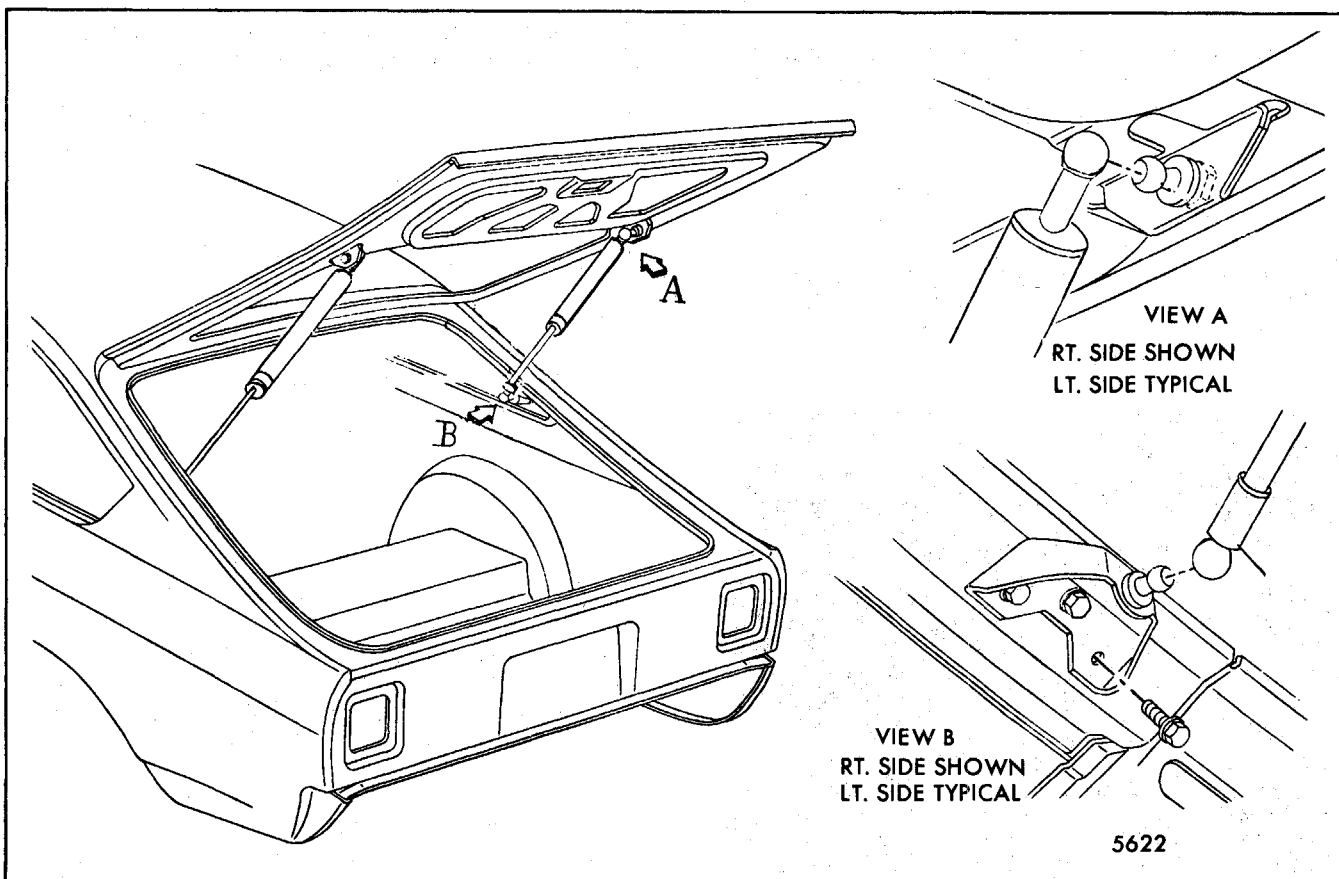

Fig. 7-9-Hatchback Lid Support Assembly Attachment - "H-77" Shown, "H-07" and "X-17" Similar
Opening assist is performed by tubular gas-operated compartment lid support assemblies mounted at each side of the lid and attached to the body. The lid up-stop is incorporated within the support assembly (Fig. 7-9).
2. Remove lid and body side retaining clips (using scratch awl or similar tool) from ends of gas-operated support assemblies (Figs. 7-9 and 7-10).